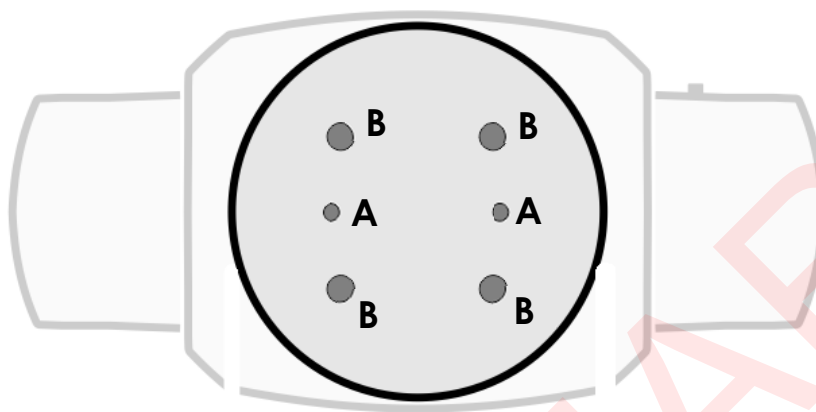

Figure 4. Mounting points in base
See Figure 4. The base of the fixture has two threaded holes **A** that accept M10 bolts or machine screws, and four mounting points **B** that accept standard camlock quarter-turn fasteners. The camlock center-to-center distance is 90 mm (3.54 in.).
3. See Figure 4. Fasten the bolts or screws through the half-coupler clamps and into holes **A** in the base of the fixture so that the clamps are held securely.
3. See Figure 4. Line up the two camlock quarter-turn pins in each of the two omega brackets with the camlock fastener points **B** in the base of the fixture and turn all locking levers a full 90° clockwise to lock the brackets to the fixture.